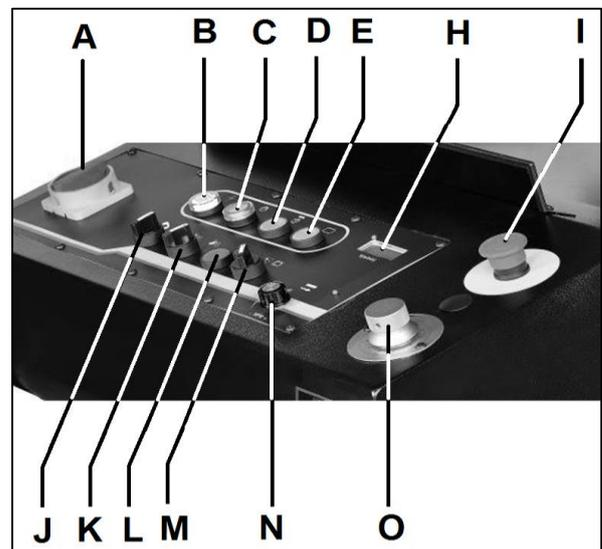
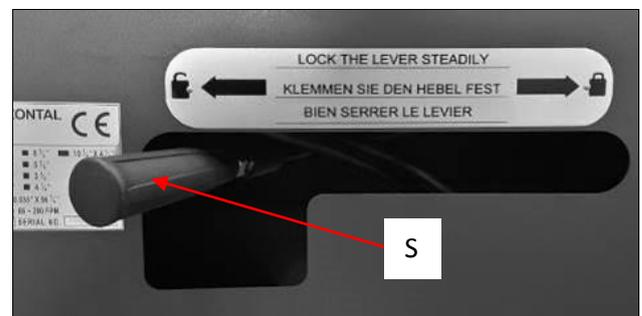

Figure 7-1: Machine Controls
Figure 8-1: Mitre Cutting Adjustment
- If the blade gets stuck in the cut, press the emergency stop button (I, Fig 7-1) immediately to switch off the machine. Open the vise slowly, remove the part and check that the
Rotate knob (N, Fig 7-1) to set the blade speed.
Connect the machine to power source. Turn the main switch (A, Fig 7-1) on. The power lamp (B) will be lit.
1. Press button (C) to start the hydraulic pump.
- Press button (C) to start the hydraulic pump.
- Switch On Main power (A, Fig 7-1).
- Use switch (M) to select manual mode
- Use switch (J) to raise the saw bow.
- Switch off Main power (A).
- Un-clip saw bow, by rotating the lock lever (S, Fig 8-1) to the left.